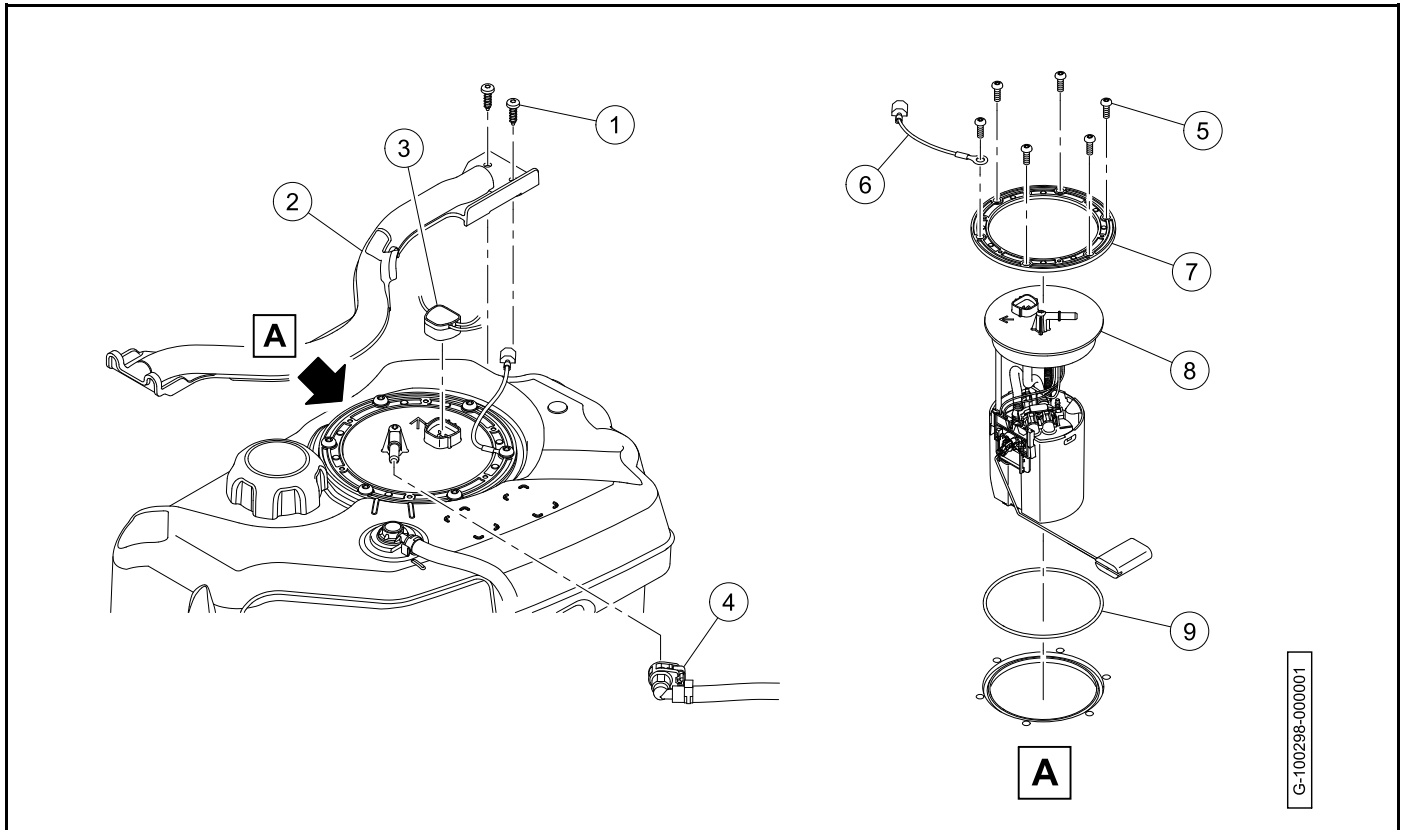

Figure 22-20 Fuel Pump Module Installation
2. Install the new fuel module o-ring (9) into groove on top of fuel tank (Figure 22-20, Page 22-19).